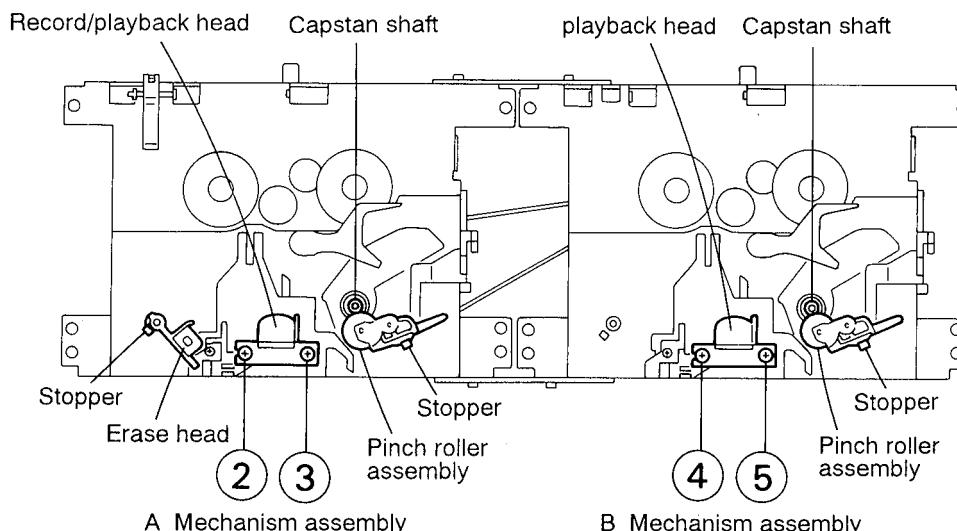

Fig. 2 – 22
■ Record/Playback head & Erase head (Fig. 2 – 22, Fig. 2 – 23)
1. Remove two screws ② and ③ retaining the Record/ Playback head of mechanism A.
2. Remove two screws ④ and ⑤ retaining the Playback head of mechanism B.